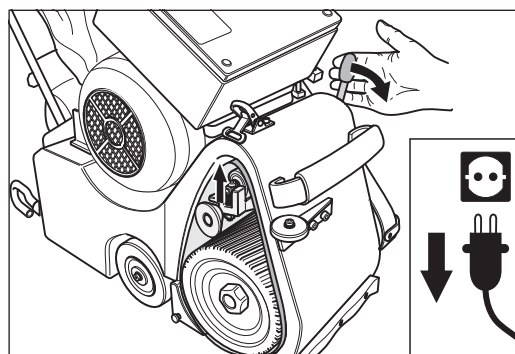

Fig. 11 To tension the sanding belt press the operating lever of the drive unit downwards.
- 11 To tension the sanding belt press the operating lever of the drive unit downwards (Fig. 11).
- **Always tension the sanding belt before switch on the machine (Fig. 11)!**